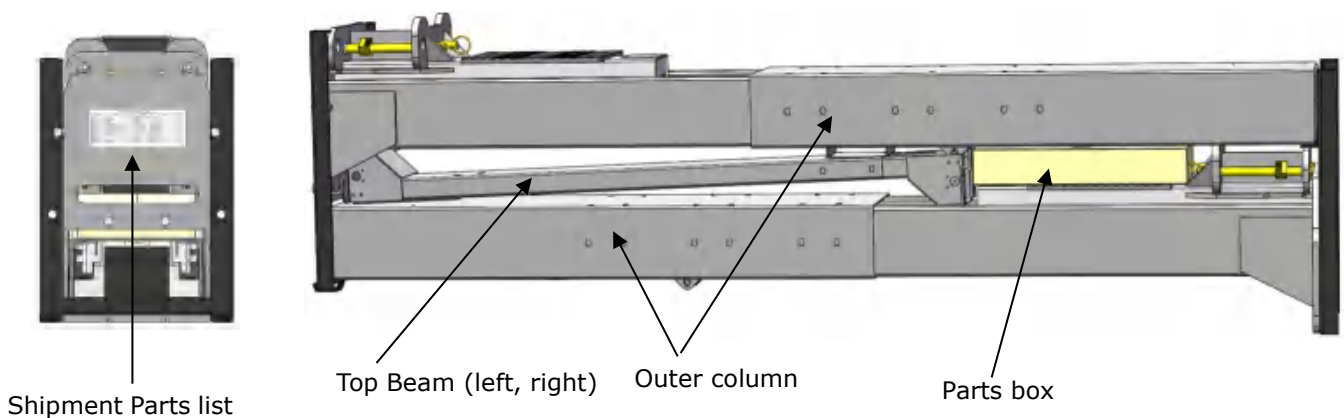

Fig. 11
2. Move the lift aside with a fork lift or hoist, open the package and check the parts according the shipment list. **(See Fig. 11)**